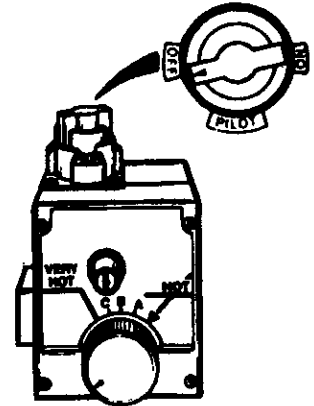
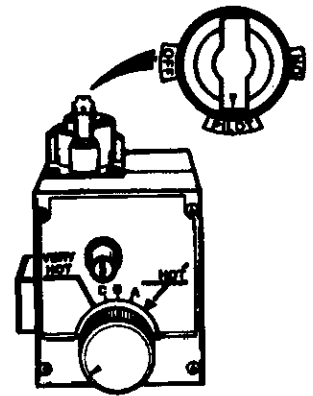
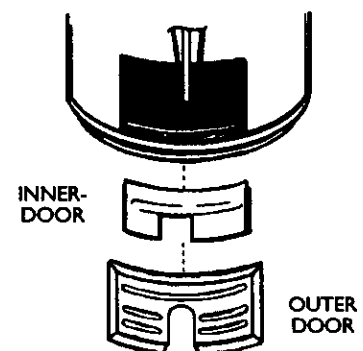

Figure 5
Figure 6
Figure 8
4. Turn gas control knob clockwise (↻) to "OFF" position. Knob cannot be turned from "PILOT" to "OFF" unless knob is depressed slightly. **DO NOT FORCE.** (Figure 5, page 19).
5. Wait five (5) minutes to clear out any gas. If you then smell gas, STOP! Follow "B" in the safety information above on this label. If you don't smell gas, go to the next step.
6. Remove (or open) inner door located below the gas control unit. (Figure 8, page 19)
8. If you don't smell gas, turn knob on gas control counter clockwise (↺) to "PILOT" position. (Figure 6, page 19)
9. Push in control knob all the way and hold down. Immediately light the pilot with a match. Continue to hold control knob in for about one (1) minute after the pilot is lit. Release knob and it will pop back up. Pilot should remain lit. If it goes out, repeat steps 3 through 8.
- If the pilot will not stay lit after several tries, depress and turn the gas control knob clockwise (↻) to "OFF" and call your service technician or gas supplier. (Figure 5, page 19)
10. Replace (or close) inner door. Replace outer door if door does not cover gas control on/off knob or temperature adjustment knob. (Figure 8, page 19)
2. Turn gas control knob clockwise (↻) to "OFF" position. Knob cannot be turned from "PILOT" to "OFF" unless knob is depressed slightly. **DO NOT FORCE.** (Figure 5)